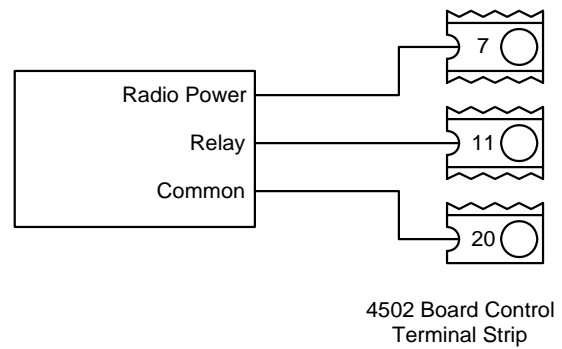

Figure 26
- Connect the radio receiver to the master operator as shown in Figure 26. If operators with battery backup are being used, refer to the supplemental manual (p/n 2340-065) for radio receiver wiring options.